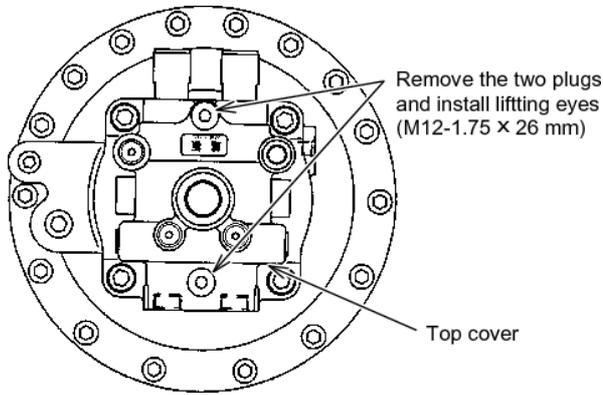

Fig. 8-13
KOBELCO highly recommends the use of a hydraulic hand pump to release the swing brake manually when the engines fails to start. Refer the Fig. 8-13 to use the proper fitting connector on P port. Remove the hose and install the proper connector on P port. Install the hydraulic hand pump and apply hydraulic pressure as follows:
4. Remove two plugs, as indicated in Fig. 8-13, and install 2 x M12-1.75 x 14 mm eye bolts.